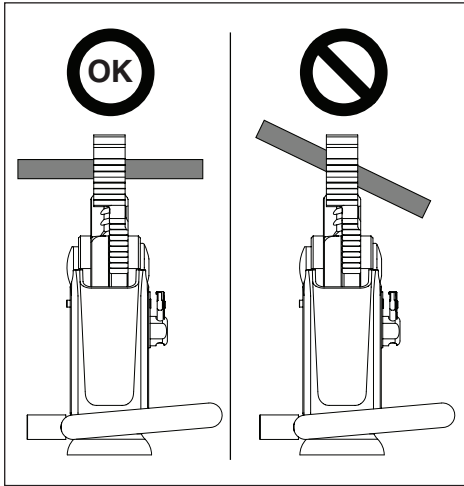

Figure 4, Positioning Material Inside the Blades
Position the material to be cut between the cutter blades so that it is perpendicular to the blade axis, as shown in Figure 4. This will provide the best quality cut.
2. Place the material to be cut between the blades. Be sure that it is perpendicular to the blade axis, as shown in Figure 4. Refer to instructions in Section 9.4 for additional information.